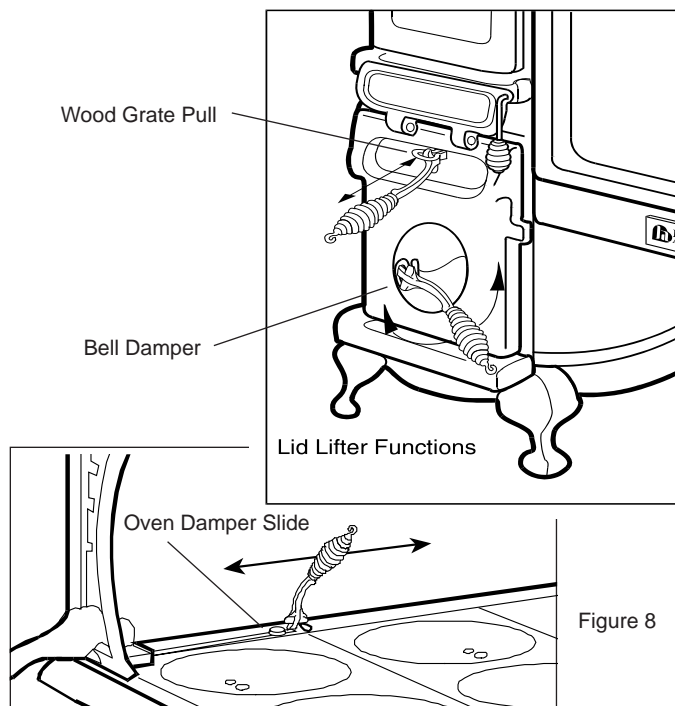

Figure 8
- open the fire door, ash pan door, woodgrate pull, bell dampers and oven damper with the 1415 lid lifter only—these surfaces get hot; (see figure 8)
1. Open the oven damper (see Fig. 8 and 9) and air intake controls (bell dampers). On damp cold days, it may help to open the ash door slightly until a good draw develops in the chimney.